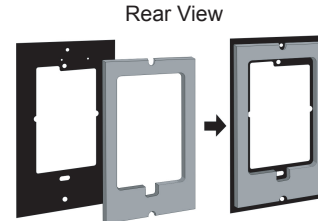

Figure 8
3. Attach the gasket to the rear of the interface bracket, as shown in Figure 8. (The gasket side faces the wall.)